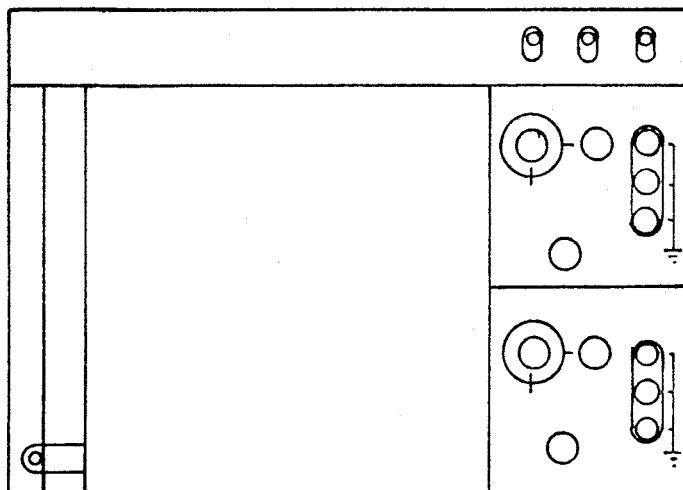

Figure 9
3. Using the FUNCTION SELECTOR BUTTON, (13), select X=0, Y=0. The pen of the plotter, if all connections have been properly made, should be in the lower left hand corner of the paper or field of interest as in Figure 9 below.